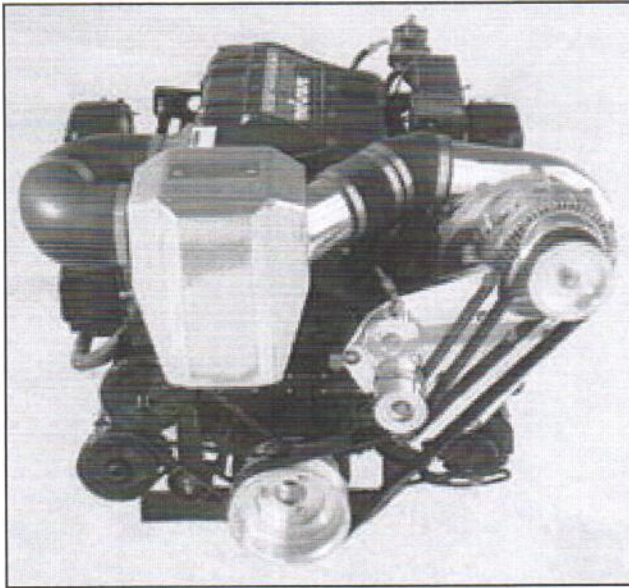

FIGURE F4
1. Determine where you are going to mount the intercooler. The intercooler has several mounting tabs attached to it. Find a place where these tabs can be used, it will be out of the way of the engine, and sits close to the level of the outlet of the ProCharger. Generally, you would like to keep it somewhat close to the engine to minimize the distance the charge air has to flow and the number of bends it has to make. Refer to figures F4 thru F7 for examples. After you have determined the mounting location, bolt or screw the side tabs to the mounting surface.